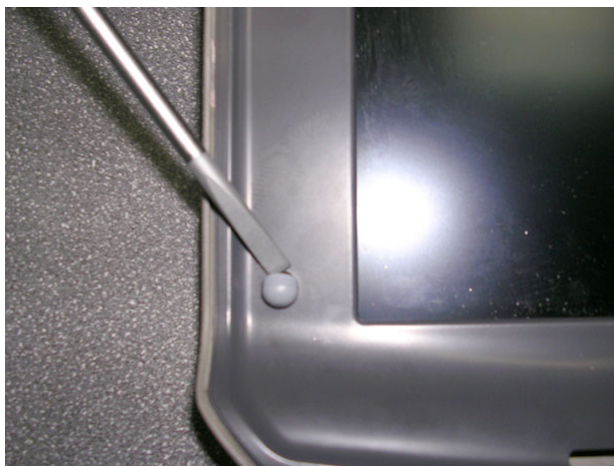

Figure 8-37 Removing the Screw Caps from the LCD Display Frame
- 1) With the LCD Display in the open (upright) position, use a flat screwdriver to remove the screw cap from each of the four screws that fasten the LCD display frame in position, as shown in Figure 8-37 below.
- 3) With the LCD Display in the open (upright) position, return the screw cap to each of the four screws that fasten the LCD frame in position, as shown in Figure 8-37 on page 8-34.